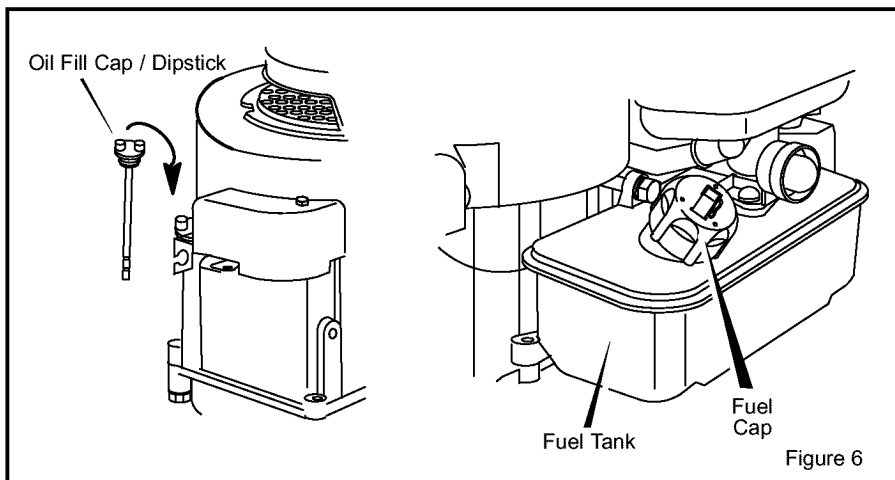

Figure 6
2. Remove the oil fill cap (Figure 6).